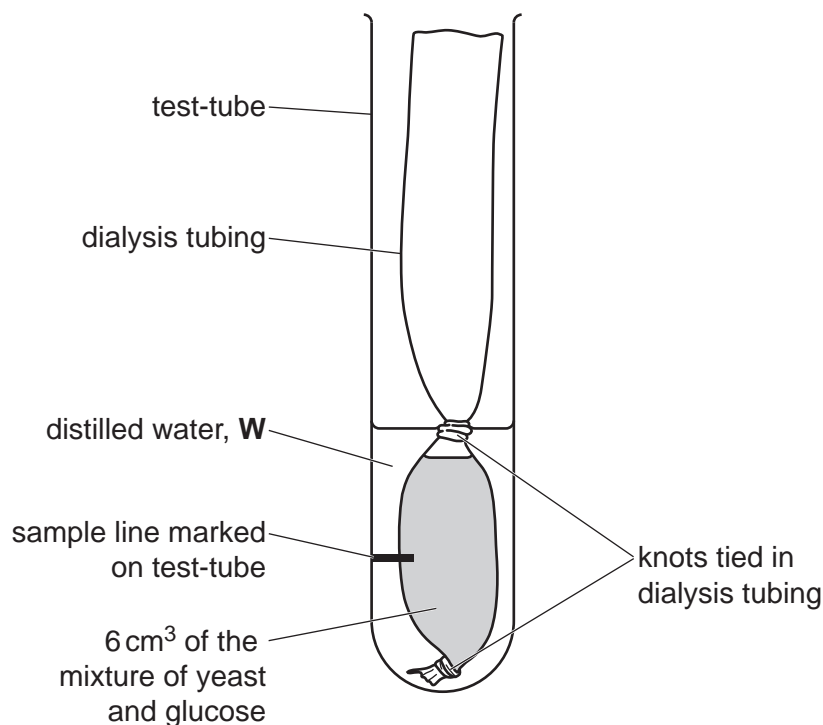

Fig. 1.3
Fig. 1.3 shows the apparatus you will set up for this investigation.
Look carefully at Fig. 1.3 to help you with step 13 to step 15.
- step 13 Tie a knot just above the level of the mixture in the dialysis tubing, as shown in Fig. 1.3.
- step 14 Put the dialysis tubing into a clean test-tube so that it is resting on the bottom of the test-tube, as shown in Fig. 1.3.
- step 15 Draw a line on the test-tube so that it is half-way between the two knots, as shown in Fig. 1.3. This is where you will take your samples from.